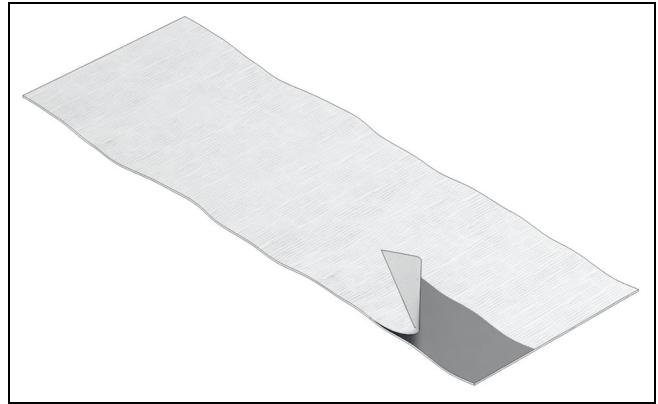

Figure 15
4. Remove the release paper from the adhesive backing at the 3" section. See Figure 15.